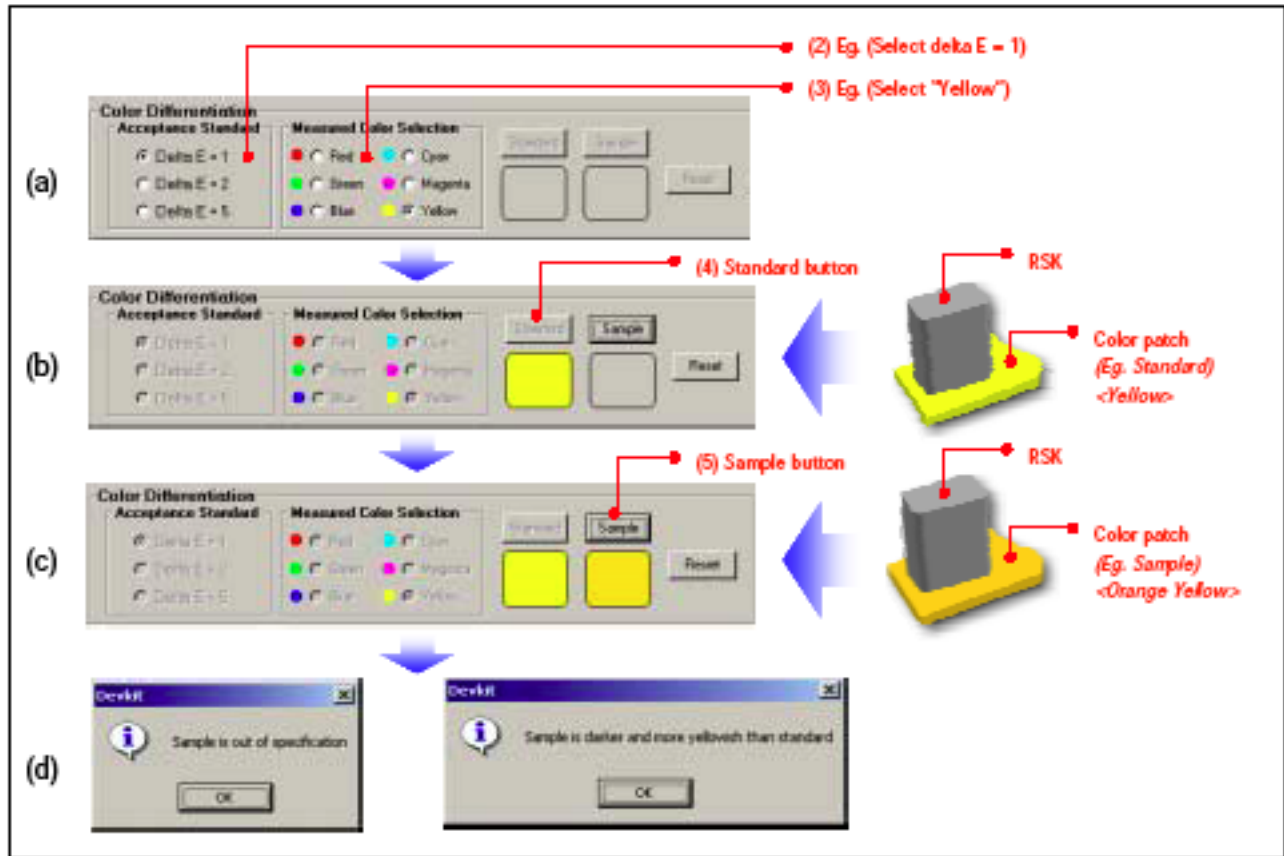

Figure 7.4
2. Select the acceptance standard (e.g., delta E = 1), as shown in Figure 7.4(a).
3. Select the types of color to be measured (e.g., Yellow), as shown in Figure 7.4(a).
4. Place RSK on standard color patch and click once at the "Standard" button to store chromaticity and lightness information into database. Refer to Figure 7.4(b).
5. Next, place RSK on sample color patch and click once at the "Sample" button to store chromaticity and lightness information into database. Refer to Figure 7.4(c).
7. User will be prompted with a message box of the result of comparison i.e., either within or out of specification, as well as prompting the L\*a\*b\* color space information. Refer to Figure 7.4(d). (e.g., In this case, Yellow is a Standard whereas Orange Yellow is a Sample, so identify that sample is yellowish than standard.)